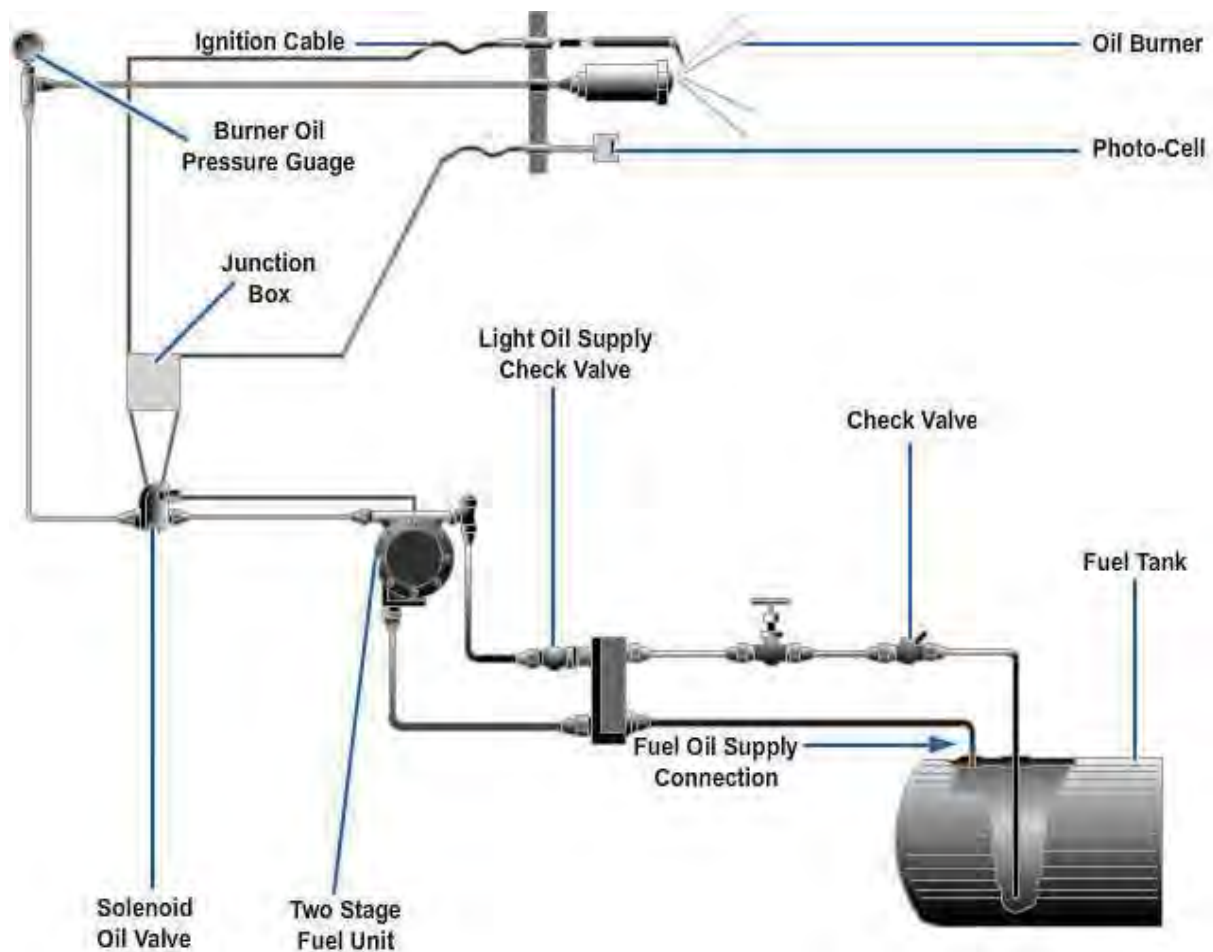

Figure 25 - Internal oil flow diagram.
You can gain knowledge of the functional relationship of the component parts by studying the internal oil flow diagram shown in *Figure 25*.
An orifice is included in the fuel line to the main oil burner (*Figure 25*). The orifice serves to keep the oil pressure from experiencing a sudden drop when the solenoid oil valve in that line opens. The orifice is commonly built into the solenoid oil valve (*Figure 25*, Item 1). Included in the schematic diagram is a photocell (3) which, if it sights no flame, reacts to cause a switching action that results in shutting down the burner.